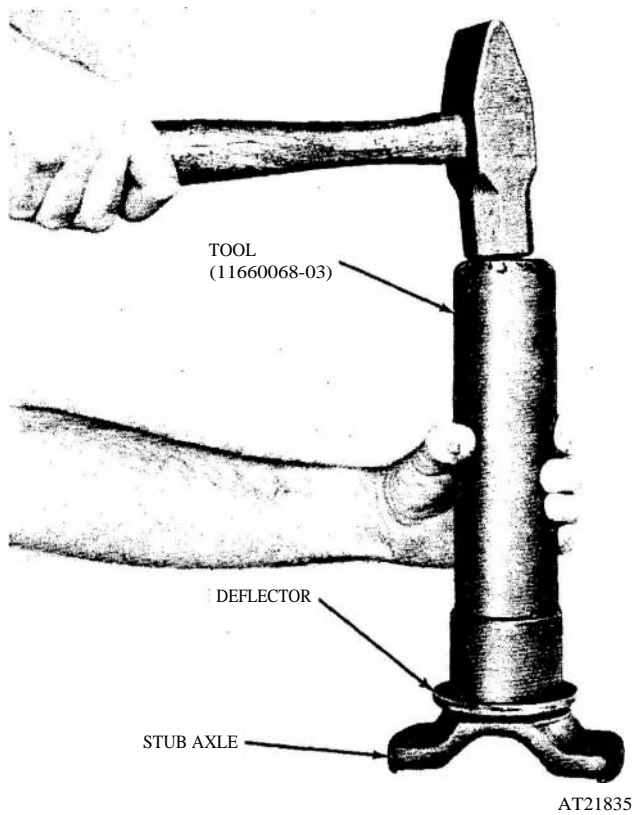
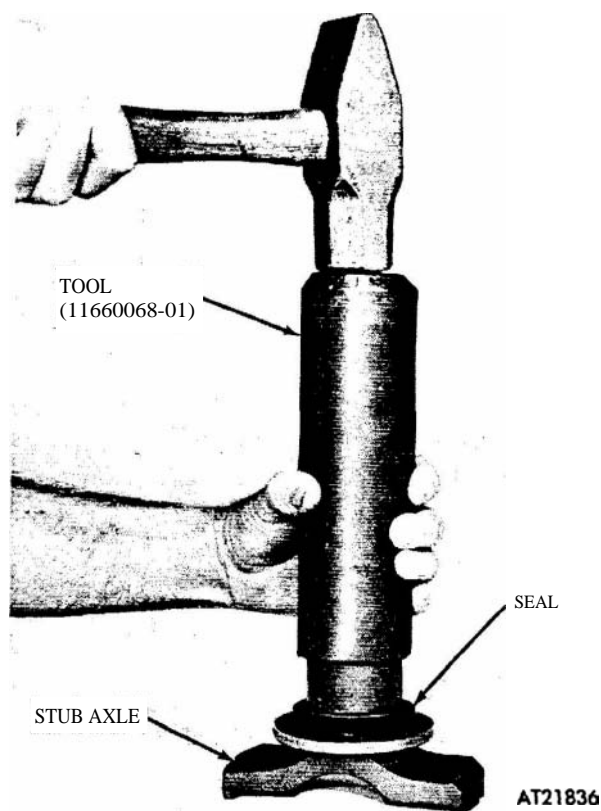

Figure 2-182. Stub axle deflector installation.
Figure 2-183. Stub axle seal installation.
(1) Position deflector over stub axle shaft and install using tool (11660068-03) (fig 2-182). Position seal over stub axle shaft and install using tool (11660068-01) (fig 2-183).